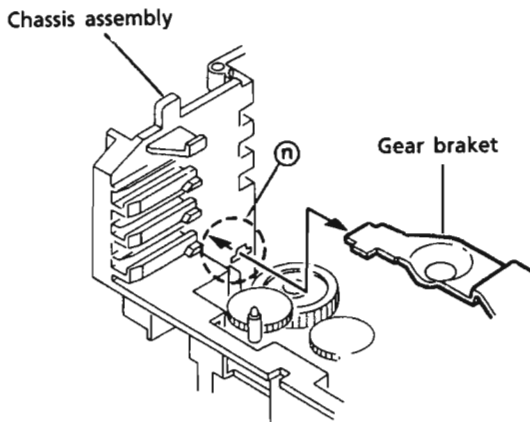

Fig. 38
3. Remove the gear bracket from the chassis ass'y's (N) securing top of the gear bracket. (See Fig. 38.)